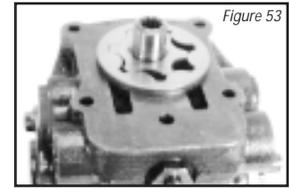

Figure 53
**25** Align the spline of the gerotor's inner ring, then lubricate and install the inner ring and outer ring over the input shaft and onto the endcover assembly (see Figure 53).